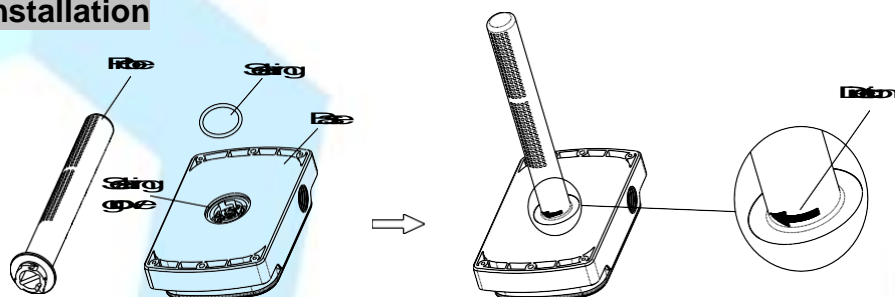

Fig.1
- First, assemble the separated probe on the bottom of enclosure as Fig.1. Insert the seal ring properly and then insert the probe, screw according to the direction indication to the end.